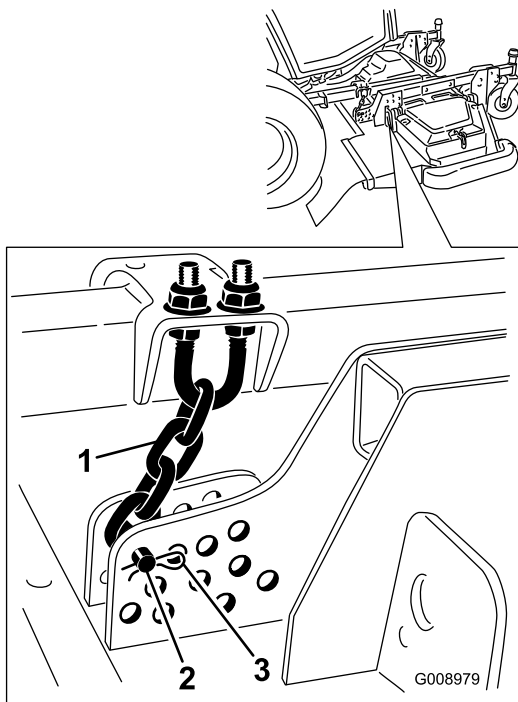

Figure 91
4. Remove the hairpin cotter and clevis pin securing the height-of-cut chains to the rear of the mower deck (Figure 91).